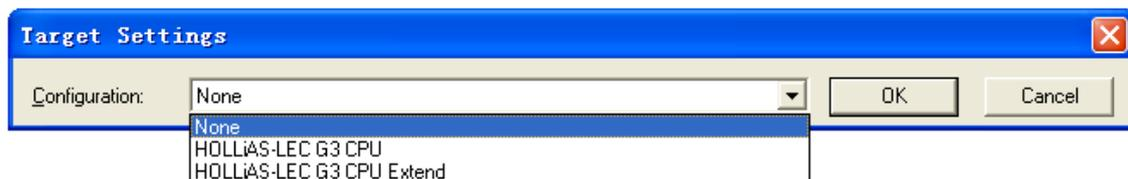

Figure 3-3-1 Target Settings
- Select “HOLLYSYS-LEC G3 CPU Extend” in the “Configuration” box. This target is for CPU modules with memory space of 120KB. Click “OK”, as shown in figure 3-3-1. Select “HOLLYSYS-LEC G3 CPU” if the memory space of the CPU module is 28KB. If you are not sure about the size of memory space, see appendix. Select “None” if you want to write new library instructions. *Refer to section 7.4.5 for details about making libraries.*